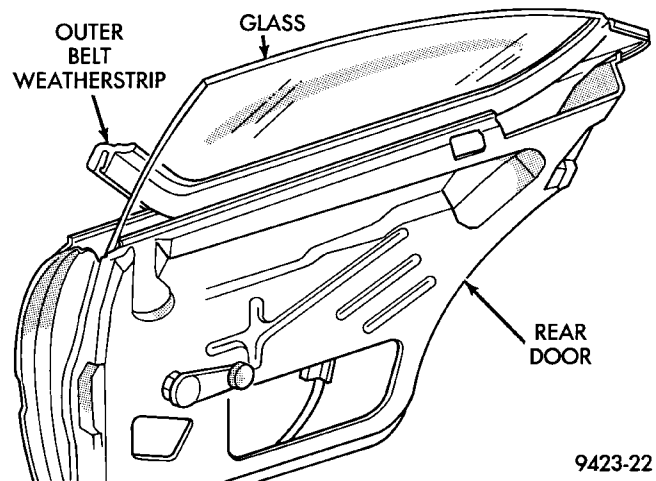

Fig. 50 Rear Door Outer Belt Weatherstrip
- (1) Open door glass.
- (2) Pull upward at rear end of outer belt weatherstrip.
- (3) Separate outer belt weatherstrip from vehicle (Fig. 50).